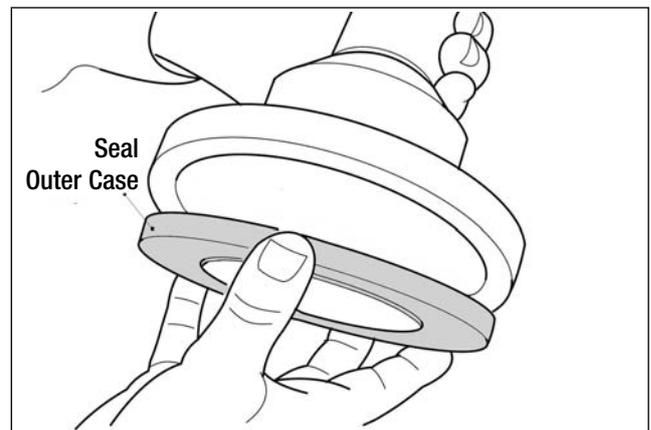

Fig. 4.9
- 4. Insert seal outer case into service tool MST4410 - CT26 (Fig.4.9)